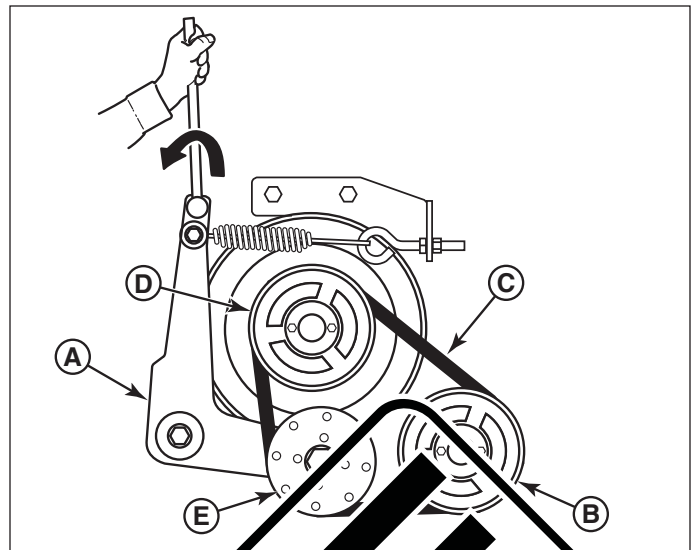
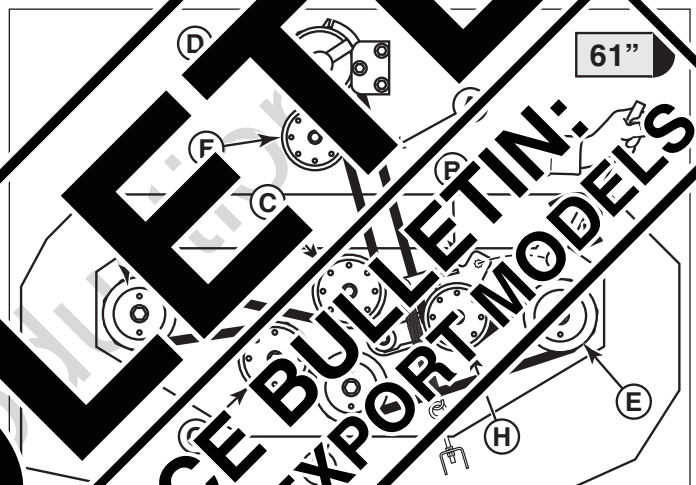

Figure 5. Removing the Gearbox Drive Belt
Figure 6. Removing the Mower Deck Drive Belt
9. Using a 1/2" breaker bar, place the square end in the square hole located in the end of the idler arm (A, Figure 5). Carefully rotate the breaker bar **counter-clockwise**, which will relieve the tension exerted from the idler arm.
10. Slide the gearbox drive belt over the edge of the gearbox pulley (B). Carefully release the tension on the breaker bar.
11. Remove the gearbox drive belt (C).
12. Lower the mower deck to it's lowest cutting position and remove the mower deck guards and floor pan to gain access the mower deck drive belt (A, Figure 6).
13. Using a 1/2" breaker bar, place the square end in opening located in the idler arm (B) and rotate the idler arm **counter-clockwise**, which will relieve the tension on the belt exerted from the idler arm.
14. Slide the drive belt over the edge of the rear stationary pulley (C). Carefully release the tension on the breaker bar.
15. Remove the belt from the PTO clutch (D).
16. Remove the hardware (B) that secures the clutch anchor pad (C) to the PTO clutch (D) and disconnect the wire harness from the PTO clutch.
17. Loosen the jam nut (E) on the spring anchor eye bolt (F).
18. Loosen the adjustment nut (G) on the spring anchor eye bolt to release the majority of the belt tension. Use caution to remove the nut to completely release the tension.
19. Remove the belt from the single groove pulley (J). To assist in removing the belt it may be necessary to loosen the hardware that secures the rear guide pulley (F, **Figure 6**).